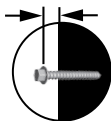

Figure 6
4. Insert a **Wall Mounting Screw** onto the **Concrete Anchor** from **Step 3** using the **11/32 in (8 mm) Wrench**. Ensure there is a **1/8 ~ 5/32 in (3 ~ 4 mm)** gap between the head of the **Screw** and the **Wall**. Figure 6.